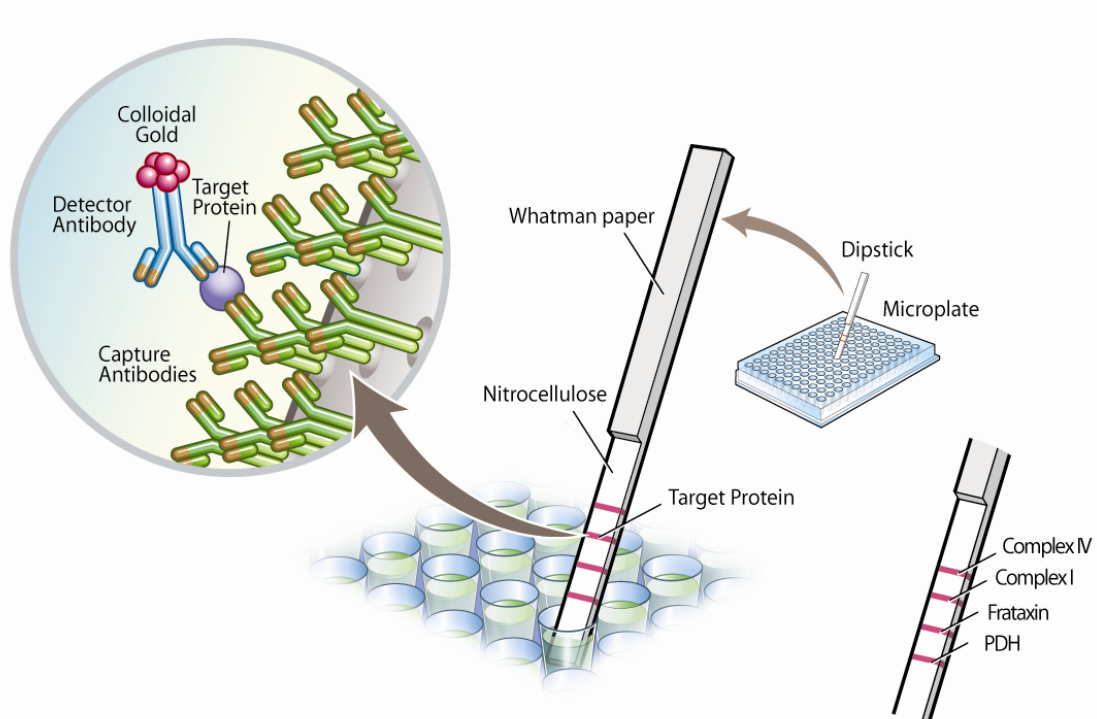

Figure 1. MSX31 is a lateral flow/dipstick device measuring mitochondrial complexes I, IV, PDH and frataxin by sandwich ELISA.
The method is based on an immunological sandwich assay (see Figure 1). Each enzyme is bound by two unique monoclonal antibodies. To accomplish this, one antibody is gold labeled and mixed with the sample. The other is embedded in the strip in one of four vertically separated zones. As the sample wicks past each zone the corresponding enzyme (now gold labeled) is trapped, this results a red colored band which is directly proportional in intensity to the amount of each enzyme captured.
4. Gently add a dipstick to the well with the thin end down (see Figure 1). The contents will immediately begin wicking up the dipstick.